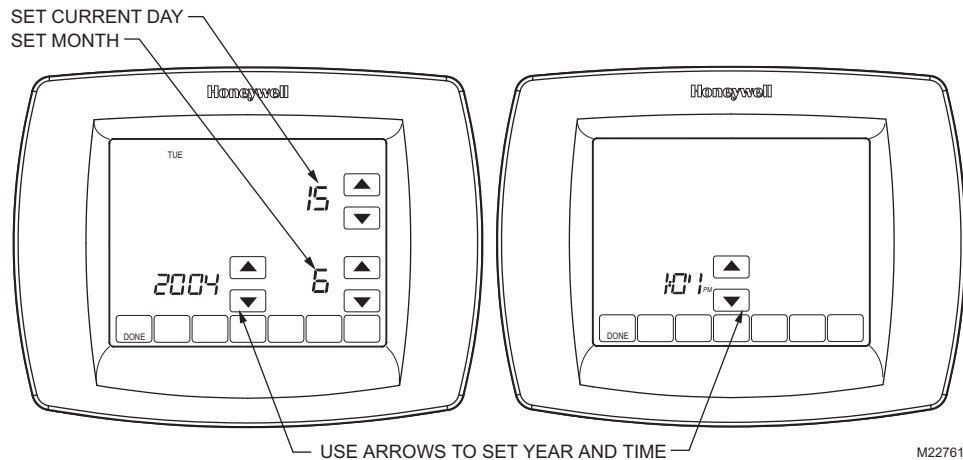

Fig. 31. Setting calendar and time when thermostat is first powered.
- When first powered, the thermostat proceeds through a sequence of screens to set the calendar. See Fig. 31.